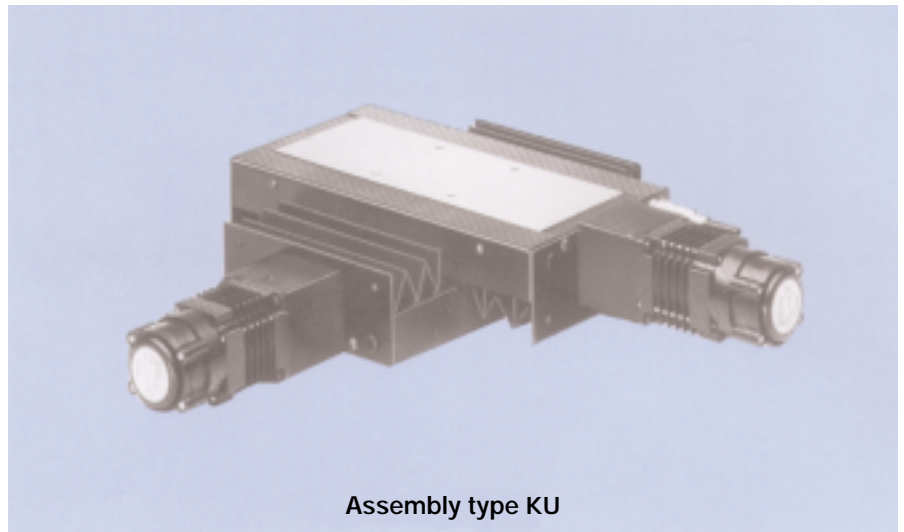

Fig. 6
**Precision cross tables (Fig. 6)